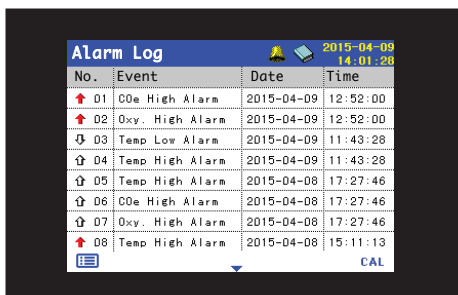

Fig. 8.13 Alarm Log page
- *Alarm Log* (Fig. 8.13): a history of alarm events